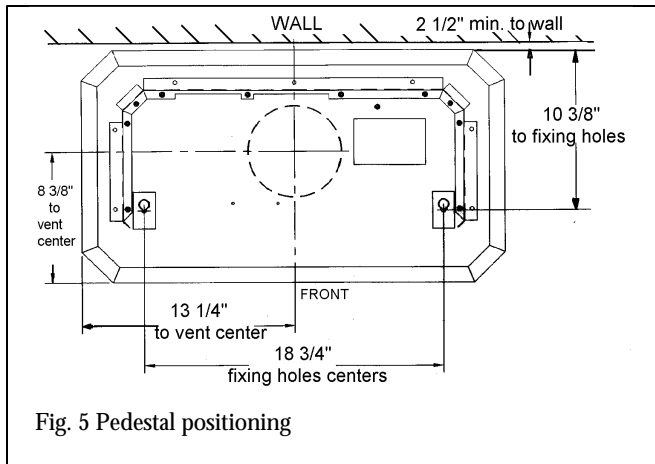

Fig. 5 Pedestal positioning
- 8.1.2** Place the pedestal in position (see figure 5). The bottom rear of the pedestal must be at least 2½" from the back wall to maintain the 2" rear clearance shown in figure 1.
- 8.1.3** Mark the floor with the floor fixing positions through the holes in the pedestal (see figure 5).